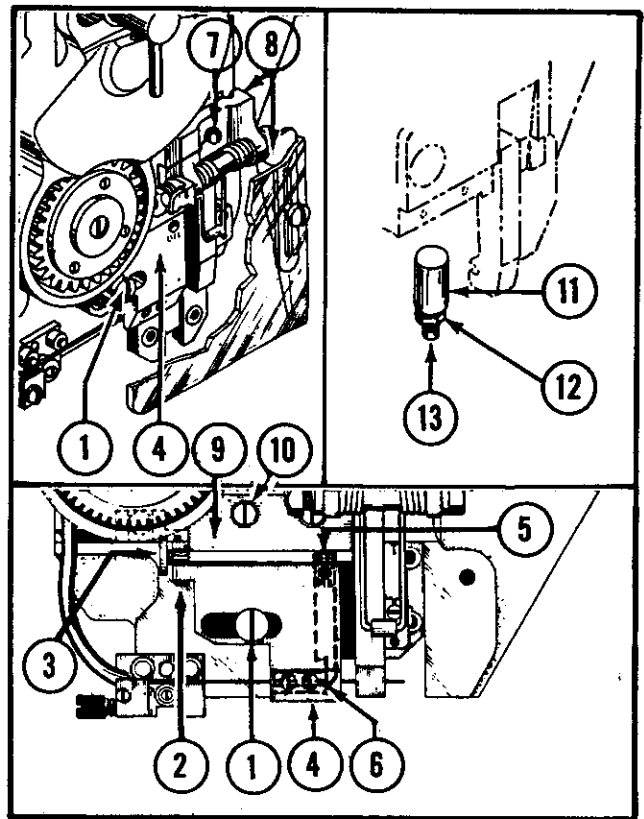

Figure 12—Staple Left Leg and Movable Cutter Adjustments
4. HOW TO ADJUST LENGTH OF STAPLE LEFT LEG LEG (See Fig. 12)
(See Fig. 12)